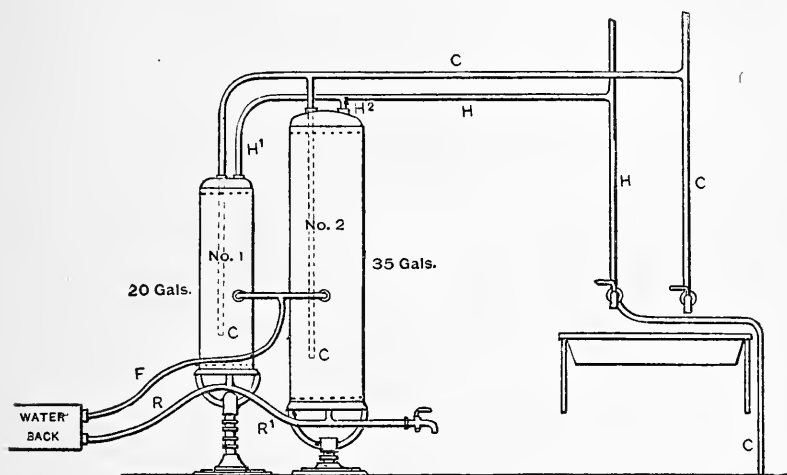

Fig. 1.—Faulty Way of Connecting.
*Answer.*—Fig. 1 is a reproduction of the sketch furnished by our correspondent with the reference letters added. Fig. 2 illustrates an arrangement of pipes which will tend to produce circulation in the two boilers. To facilitate the explanation, reference letters are used in Figs. 1 and 2. F denotes the flow pipe from back to boilers, R the return pipe from boilers to back, C the cold water supply pipes, H the hot water supply pipes from boilers to faucets and fixtures, and H1 vertical hot water pipe on No. 1 boiler. In Fig. 1 R1 indicates "trap" in return pipe between No. 1 and No. 2 boilers. It is
apparent from the arrangement of pipes shown in Fig. 1 that the two boilers are not connected to the water back, cold water supply, or to the distributing hot water pipes in the same manner, the piping of boiler No. 1 being more favorably arranged at three points: 1. The return pipe R, Fig. 1, is not "trapped" between the water back and boiler No. 1, whereas the return pipe R1 is considerably "trapped" between water back and boiler No. 2. The effect is that when cold water enters through pipe C it passes to water back through pipe R, retarding, and it may be said stopping, circulation
in pipe R1 of boiler No. 2. 2. The cold water supply through pipe C (Fig. 1), boiler No. 1, is more favorably arranged than through the pipe C, boiler No. 2. 3. The hot water supply pipe H1 (Fig. 1), from boiler No. 1, offers less resistance to the flow than the hot water pipe from No. 2 boiler, because the cold and hot water pipes of No. 1 boiler offer less resistance in changing the directions of the flow than is presented in the same pipes from boiler No. 2. It is quite possible that the water in these two boilers becomes heated with the pipes connected and arranged as shown in Fig. 1, on account of the circulation between the water back and boiler No. 1 and the circulation between No. 1 boiler and No. 2 boiler. When the hot water faucet is opened hot water flows from the smaller boiler,